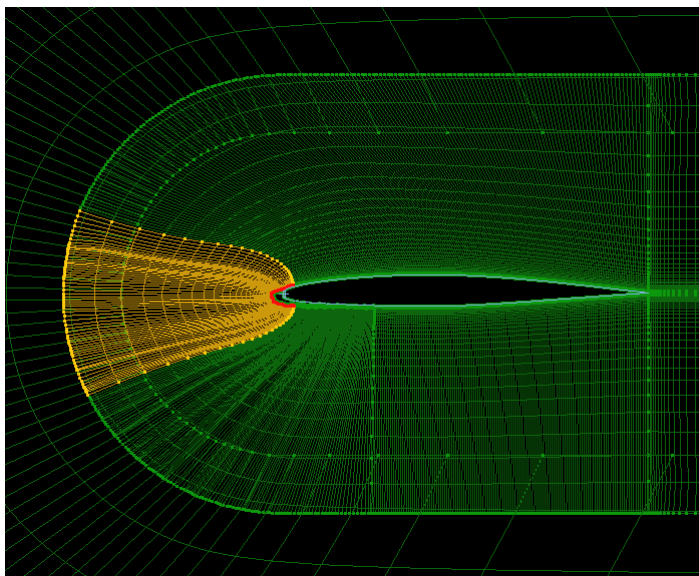

Figure 24. Gridded airfoil with rime ice.
- Click the **OK** button to make the changes permanent and close the window. Your grids should look similar to the ones in Figure 24.